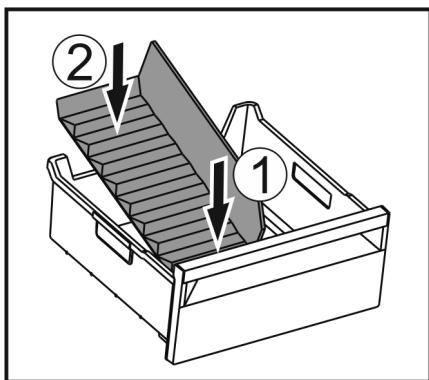

Fig. 147
- ▶ Insert the front part of the ice compartment divider. *Fig. 147 (1)*
- ▶ Lower the rear part of the ice compartment divider to the drawer bottom. *Fig. 147 (2)*